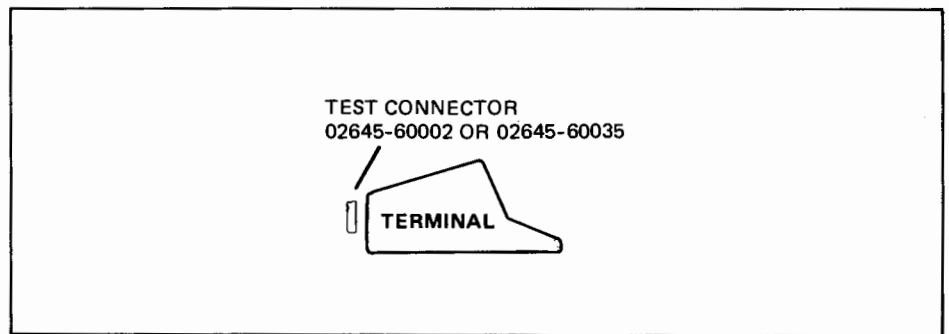

Figure 6-10. PCA Test Setup
2. Connect PCA Test Connector, part no. 02645-60002, to data communications PCA. (If operating in current loop, use test connector part no. 02645-60035 to connect to 13260B Data Communications PCA.) (See figure 6-10.)